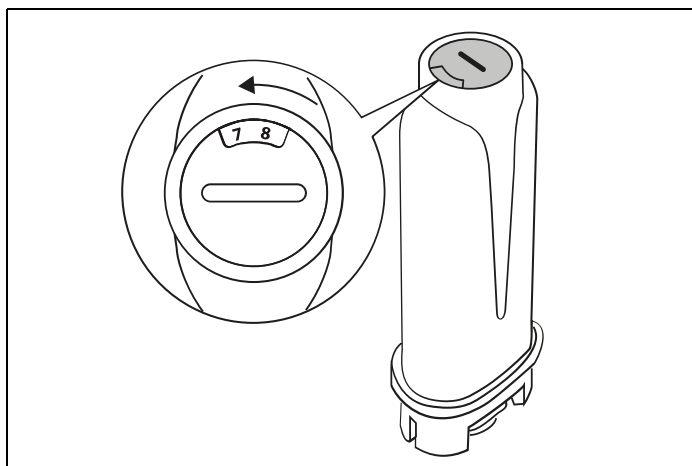

Fig. 60
- **Turn the date indicator until the next 2 months are displayed** (Fig. 60): turn the date indicator disk until the next two months of use are displayed. Press  **NEXT**;